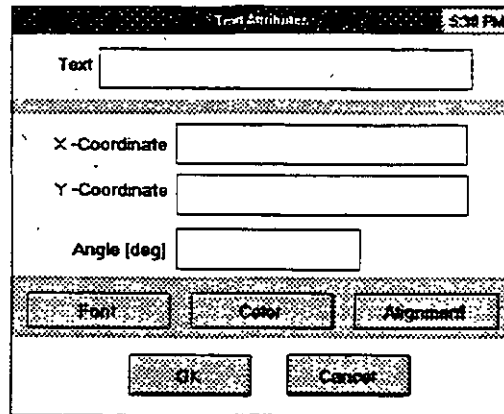

Figure 15-57
- New. Click on New. The screen will display the Text Attributes dialogue box as shown in Figure 15-57. Placement of text is determined by the X and Y coordinates of
1. Click on **New** button. GWW will open an empty dialogue box, **Text Attributes**, such as shown in Figure 15-57.